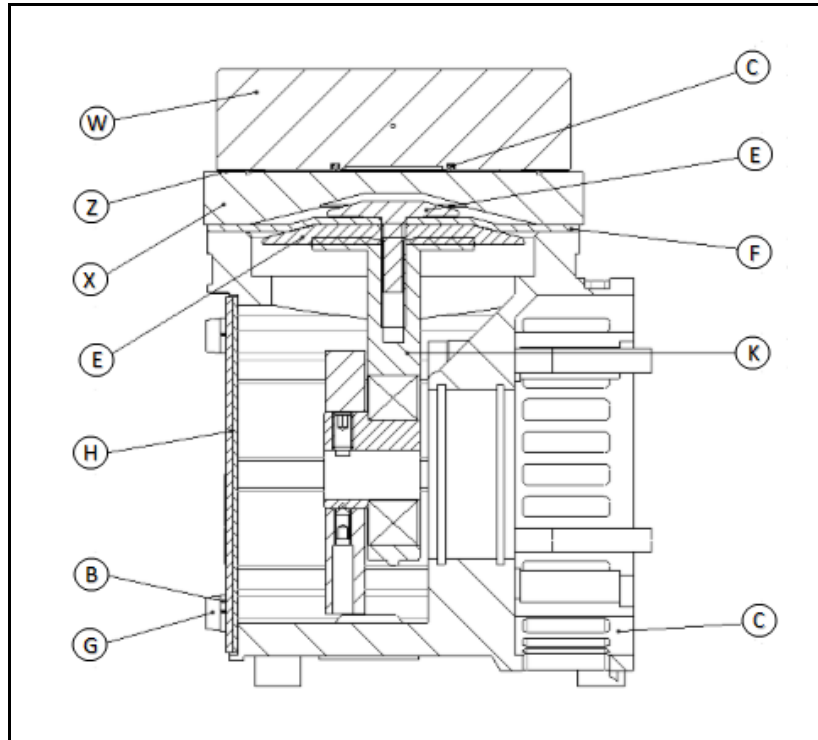

Fig. 13: Pump parts for .9 versions with stainless steel head
***According to Fig. 13*
11. Place the new valve plate Z and O-ring C on the intermediate plate X (for orientation: see fig. 13).
* According to Fig. 13